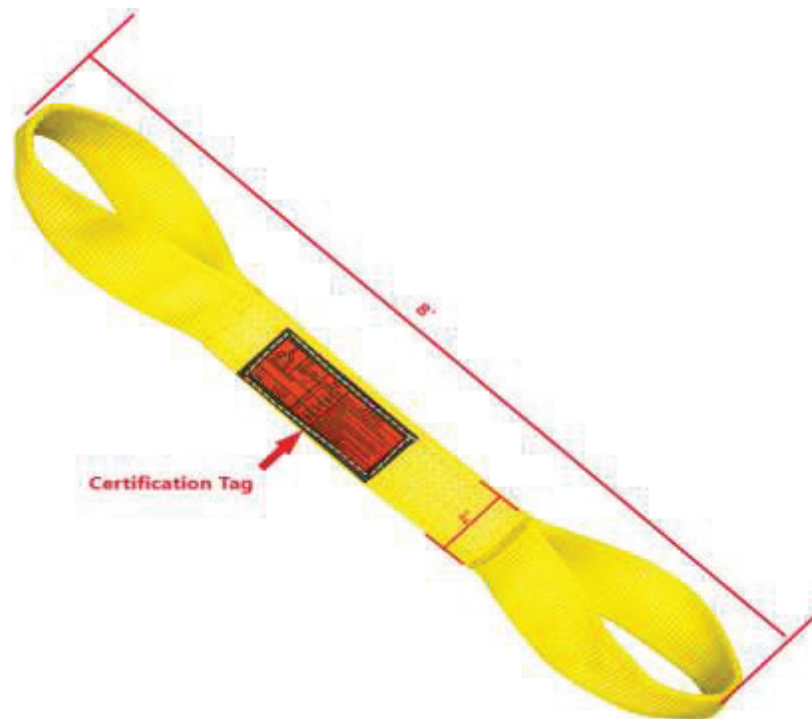
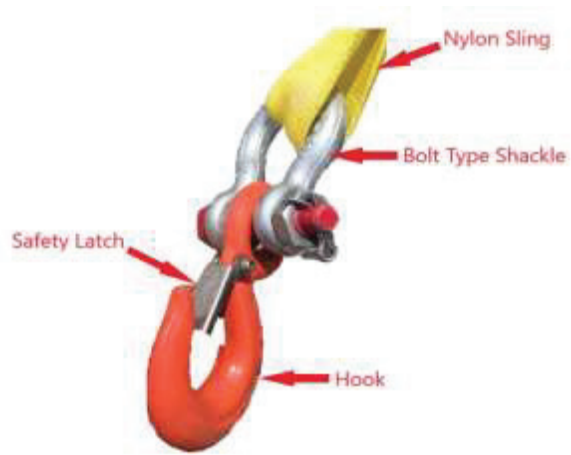

Figure 5-1
Figure 6-1
A **diver/handling** frame consists of twenty (20) 2" x 8' slings, (20) 3.25Ton bolt type shackles, and (20) 3Ton hooks with safety latches. A nylon sling can be seen in figure 5-1, and the completed sling assembly can be seen in figure 6-1. The bridle to connect the frame to the crane is a 4-leg bridle, 20'L x 7/8". You would use (4) 4.75Ton Crosby Bolt type shackles are used to secure the bridle to the frame.
Prior to attaching the slings to the frame, an inspection of the sling needs to be made. First thing to check is the date on the certification tag as shown in figure 5-1. If the date is one year old or later, the sling is not to be used. The next thing to check is for physical wear on the sling. If there is any tears or rips in the sling that are longer than a quarter of an inch, the sling must be discarded.